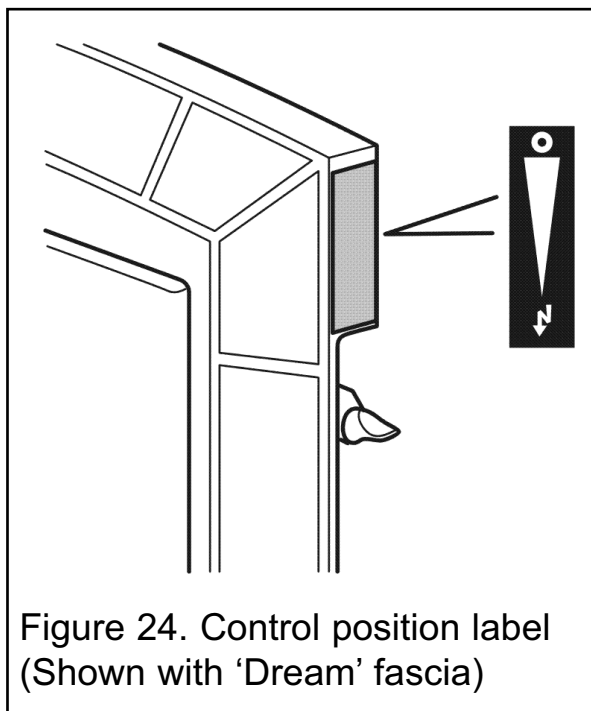

Figure 24. Control position label (Shown with 'Dream' fascia)
1. Supplied with the fire is a self adhesive control position label. Peel the backing from the label and place as in figure 24.